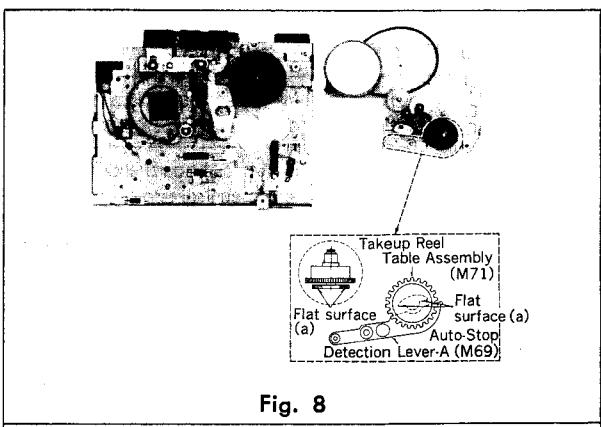

Fig. 8
- \* Mount the takeup reel table assembly (M71) so that auto-stop detection lever-A (M69) matches flat surface (a) on the rear of the assembly, as shown in fig. 8.